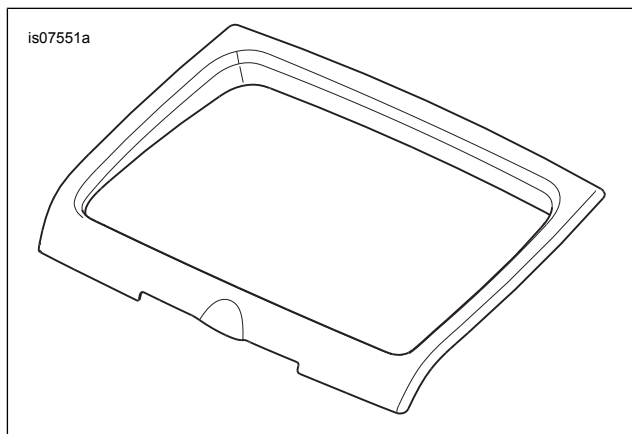

Figure 1. Radio Trim
1. See Figure 1. With the protective tape still in place on the adhesive backing, test fit the radio trim to the radio bezel.